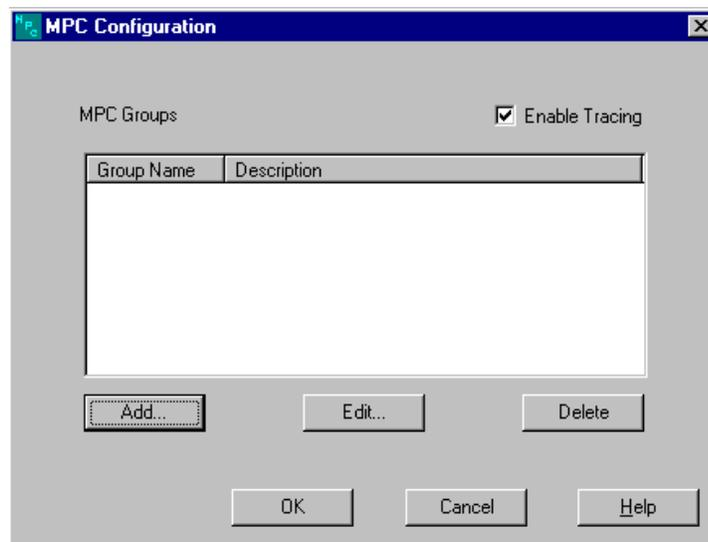

Figure 5-7. MPC Configuration
During link definition for TCP/IP Direct Connect (see page 42) or CS/NT (see page 62) you will be given the option to configure MPC. When you select the option to configure MPC the MPC Configuration dialog box is displayed (Figure 5-7). The following step-by-step procedure will define a new MPC transmission group.
1. From the MPC Configuration screen (Figure 5-7), click the **Add...** button.